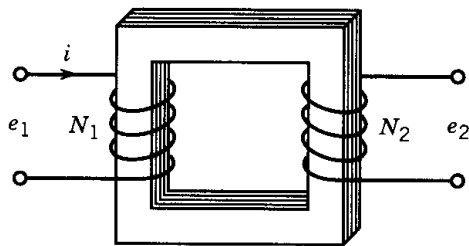

FIGURE P1.20
- 1.20 Figure P1.20 shows a two-winding transformer with a laminated core. The winding with $N_1 = 200$ turns is connected to a voltage to produce a flux density in the core $B = 1.2 \sin 377t$. The second winding, with $N_2 = 400$ turns, is left open-circuited. The stacking factor of the core is 0.95, i.e., the core occupies 95% of the gross core volume. The gross cross-sectional area of the core is 25 cm^2 , and μ_r for the core is 10,000. The core length $l_c = 90 \text{ cm}$.